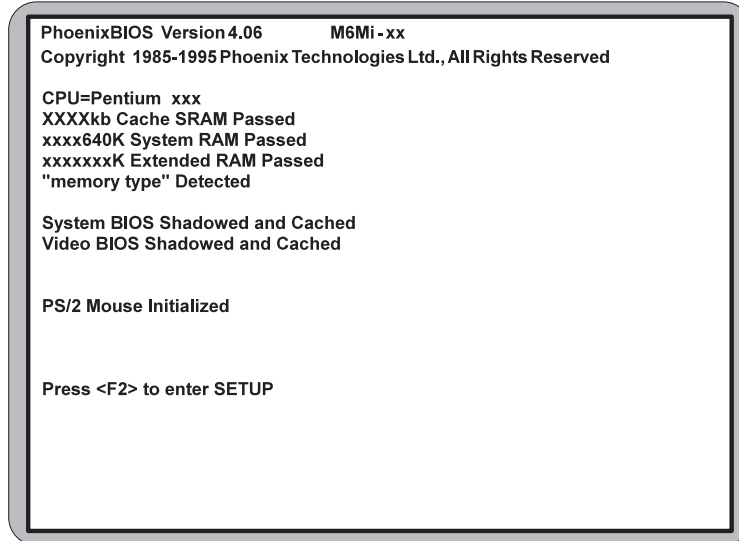

Figure 1.1: Power-Up Screen
8. Turn the computer on and press the <F2> key when you see the screen in Figure 1.1.